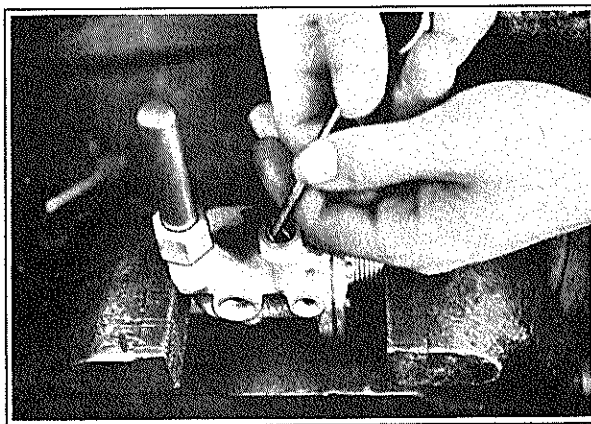

Figure 23
3. Remove valve seat snap ring and valve seat using a hooked tool such as the one illustrated in Fig. 23.